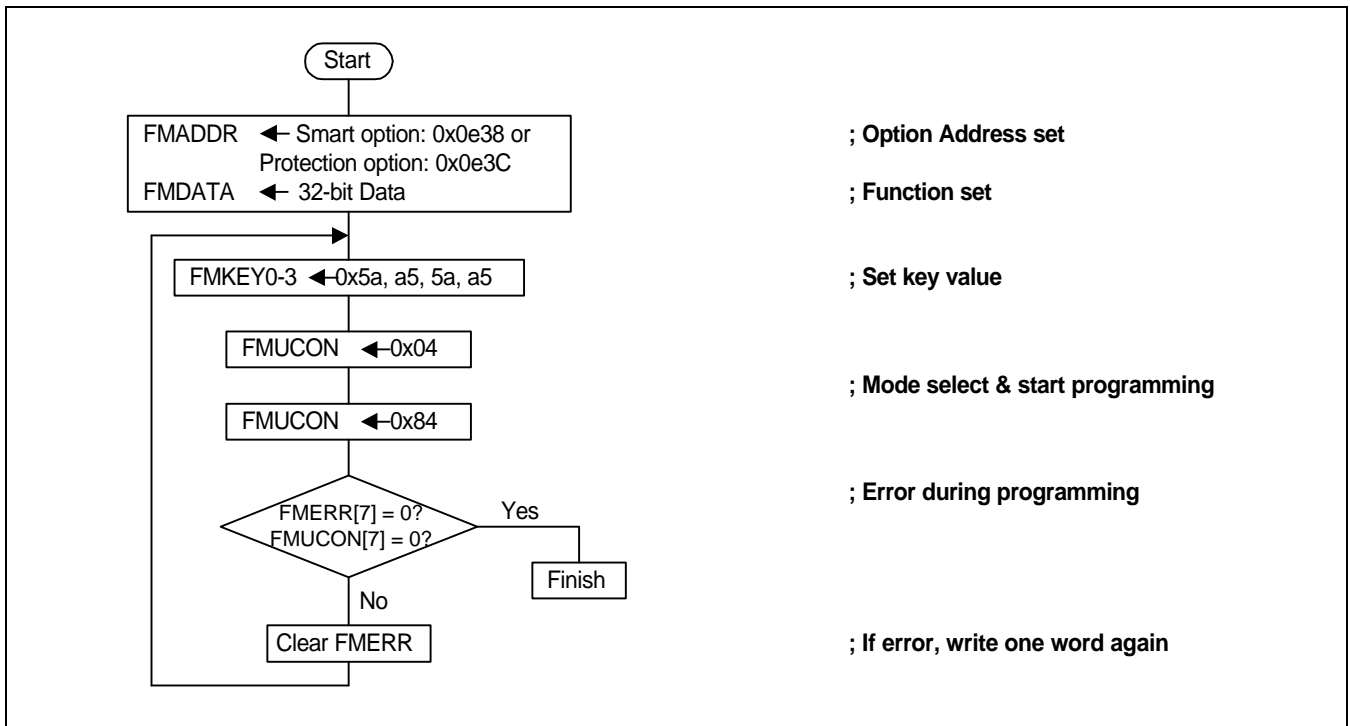
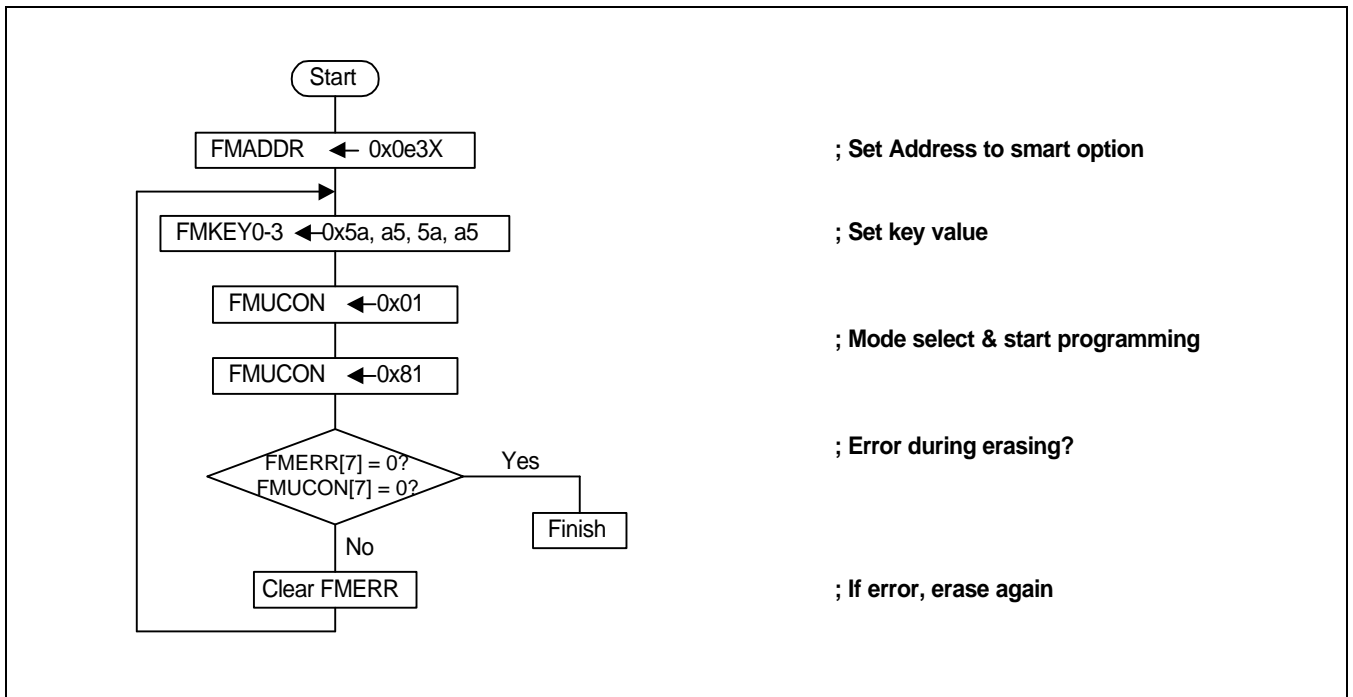

Figure 10-3. Option Sector Program Flowchart in a User Program mode
Figure 10-5. Option Sector Erase Flowchart
There are many users who do not want their data to be read by others. Read Protection can give the solution for this by preventing the flash data from being read serially in the tool program mode. This Read Protection is not available in the user program mode. When this function is enabled, the reading or and verification of flash data in the tool program mode will result in all zero read-out. Read Protection can be set and released in user program mode on the condition of HDP(Hardware Protection) released as follows. The user should write 0x0e3c into the address and the proper data 0x00ffffff(refer to the above Protection Bit table) into the data register (FMDATA), respectively. As a next step, the user should write the values (0x5a, 0xa5, 0x5a, 0xa5 in this order) into key registers 0/1/2/3(FMKEY0-3). Finally, set FMUCON.2(Option Sector Program Enable bit) then set FMUCON.7(Operation Start bit). Pls refer to figure 10-3(Option Sector Program Flowchart). Meanwhile, in order to release Read Protection, The user has to erase Option Sector as similar as Read Protection process. Pls refer to Figure 10-5 (Option Sector Erase Flowchart), which results in initializing all Protection bits and smart option bits.
Hardware Protection can be set in user program mode as follows. The user should write 0x0e3c into the address and the proper data 0xff00fff(refer to the above Protection Bit table) into the data register (FMDATA), respectively. As a next step, the user should write the values (0x5a, 0xa5, 0x5a, 0xa5 in this order) into key registers 0/1/2/3(FMKEY0-3). Finally, set FMUCON.2(Option Sector Program Enable bit) then set FMUCON.7(Operation Start bit). Pls refer to figure 10-3(Option Sector Program Flowchart).
LD Protection can be set and released in user program mode on the condition of HDP(Hardware Protection) released as follows. The user should write 0x0e3c into the address and the proper data 0xffff00ff(refer to the above Protection Bit table) into the data register (FMDATA), respectively. As a next step, the user should write the values (0x5a, 0xa5, 0x5a, 0xa5 in this order) into key registers 0/1/2/3(FMKEY0-3). Finally, set FMUCON.2(Option Sector Program Enable bit) then set FMUCON.7(Operation Start bit). Pls refer to figure 10-3(Option Sector Program Flowchart). Meanwhile, in order to release LD Protection, The user has to erase Option Sector as similar as Read Protection process. Pls refer to Figure 10-5 (Option Sector Erase Flowchart), which results in initializing all Protection bits and smart option bits.
- Configure the smart option bits in advance (refer to Figure 10-3),